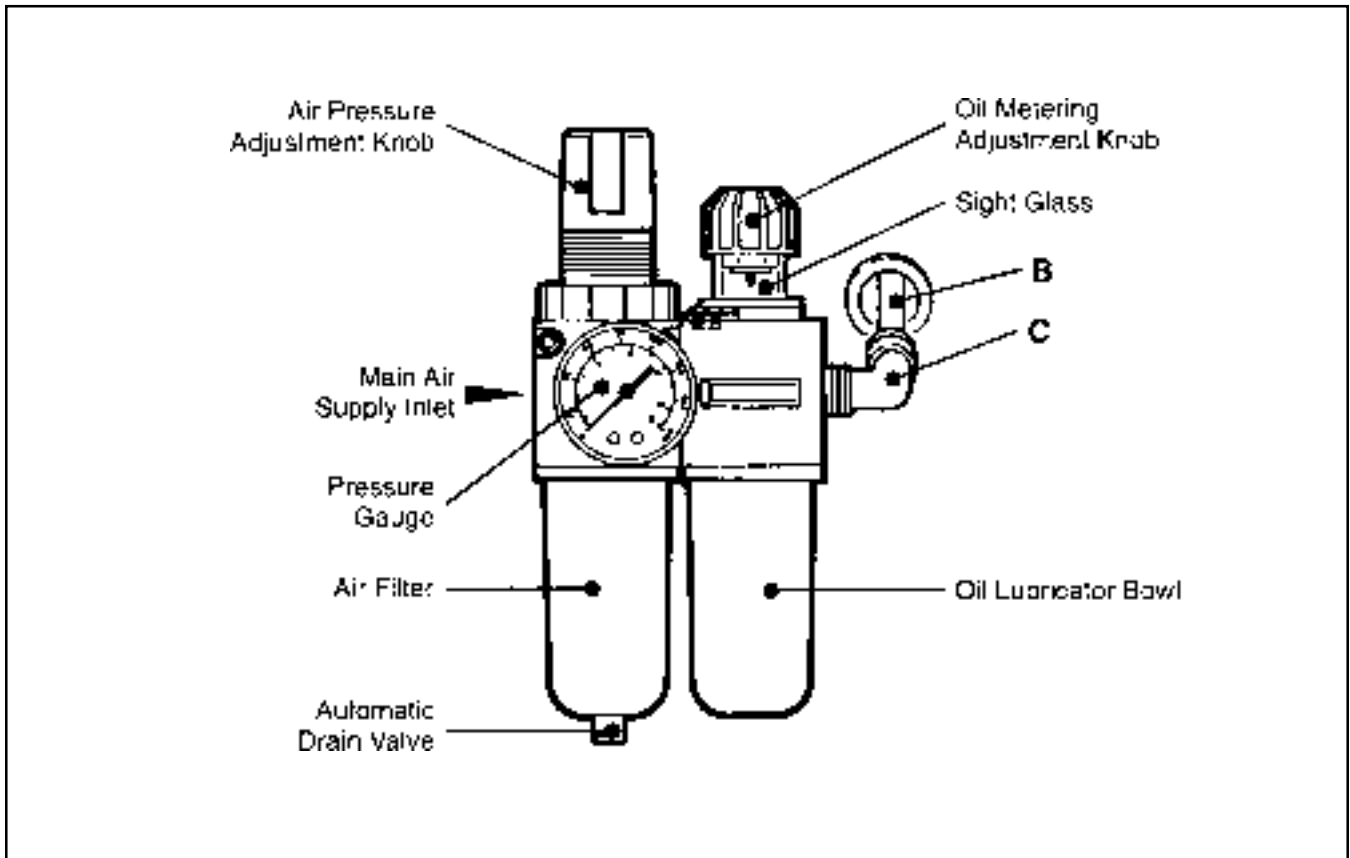

Figure 2-5 – Air Control Unit – Set-Up
2. Refer to Figure 2-5 and push the air line (B) onto the male elbow (C) on the right side of the air lubricator as shown.
3. Unscrew the air lubricator bowl, Figure 2-5, and fill with oil to 1/2 inch [12 mm] from top of bowl. **Do not overfill.** Use U.S.P. heavy mineral oil or SAE #5 or #10 non-detergent oil.
Connect main air supply line to main air supply inlet on air regulator. See Figure 2-5.
5. The lubricator oil metering adjustment knob, shown in Figure 2-5, has been preset open two turns. If excessive oil becomes visible at the exhaust mufflers, close adjustment knob clockwise 1/4 turn or until one drop/60cycles is visible in the sight glass, shown in Figure 2-5. If lubricator does not use oil, open adjustment knob counterclockwise 1/4 turn or until one drop/60 machine cycles is visible.